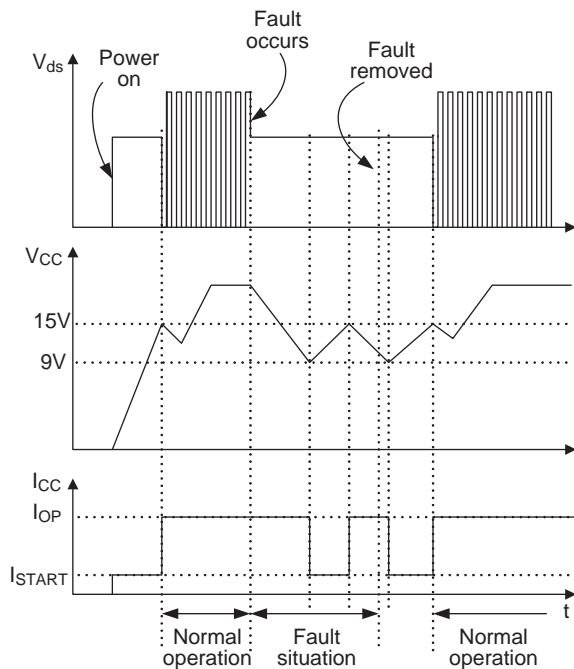

Figure 12. Auto Restart Mode Protection
– **Auto-restart mode protection:** Once the fault condition is detected, switching is terminated and the SenseFET remains off. This causes V_{CC} to fall. When V_{CC} falls to the under voltage lockout (UVLO) stop voltage of 9V, the protection is reset and the FSCQ-Series consumes only startup current (25 μ A). Then, the V_{CC} capacitor is charged up, since the current supplied through the startup resistor is larger than the current that the FPS consumes. When V_{CC} reaches the start voltage of 15V, the FSCQ-Series resumes its normal operation. If the fault condition is not removed, the SenseFET remains off and V_{CC} drops to stop voltage again. In this manner, the auto-restart can alternately enable and disable the switching of the power SenseFET until the fault condition is eliminated (see Figure 12).